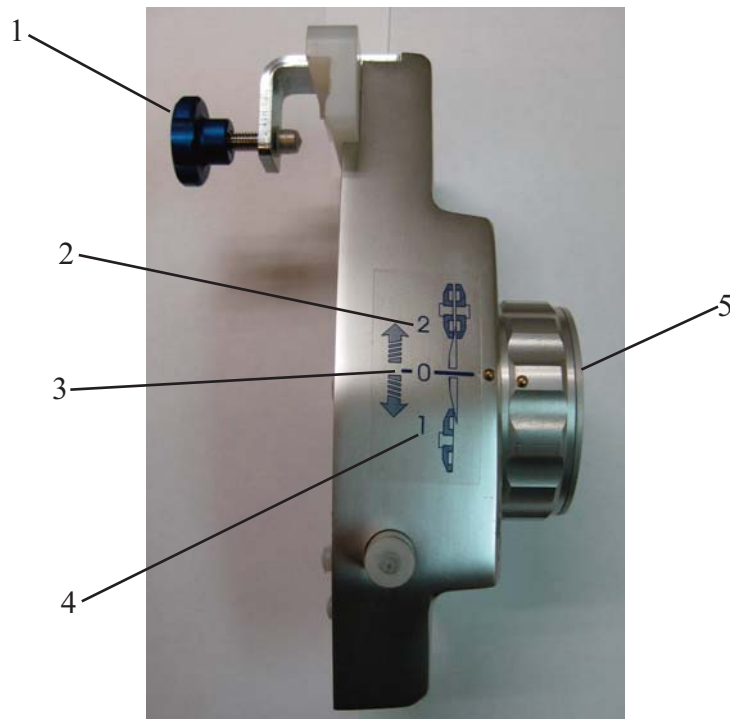

FIGURE 7
6. Turn the slicer ON. Rotate the sharpener wheel (Figure 7 [5]) downward to position “1” (Figure 7 [4]) and hold. This will start the grinding stone rotating. Run the slicer until the beveled cutting surface on the back side of the blade cleans up. This can take from 15 to 30 seconds depending on how dull the blade was allowed to become. Return the sharpener wheel to the center position (Figure 7 [3]).
8. Turn the slicer ON. Rotate the sharpener wheel up to position “2” (Figure 7 [2]), (this will engage the honing stone), and hold for 1 to 2 seconds. Turn the slicer OFF. The blade should now be completely sharpened and honed.
9. With the slicer turned OFF, loosen the sharpener mounting knob (Figure 7 [1]). Slide the sharpener towards the front of the machine and lift it off the fence. Fully close the fence.